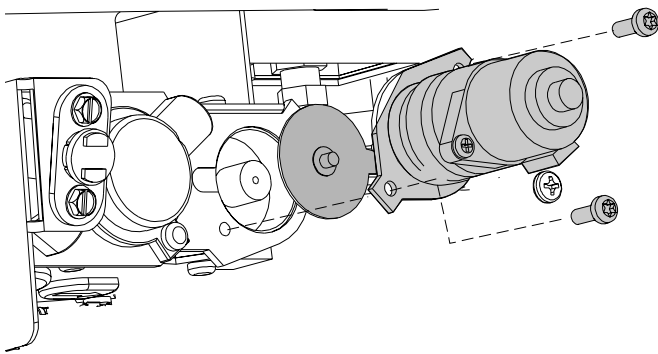

Figure 7.7.
10. **Replace the Valve Regulator.** Fig. 7.7. Using a Torx T-20 screwdriver, remove the screws from the front of the original regulator. Remove the regulator components and replace them with the one from the conversion kit.